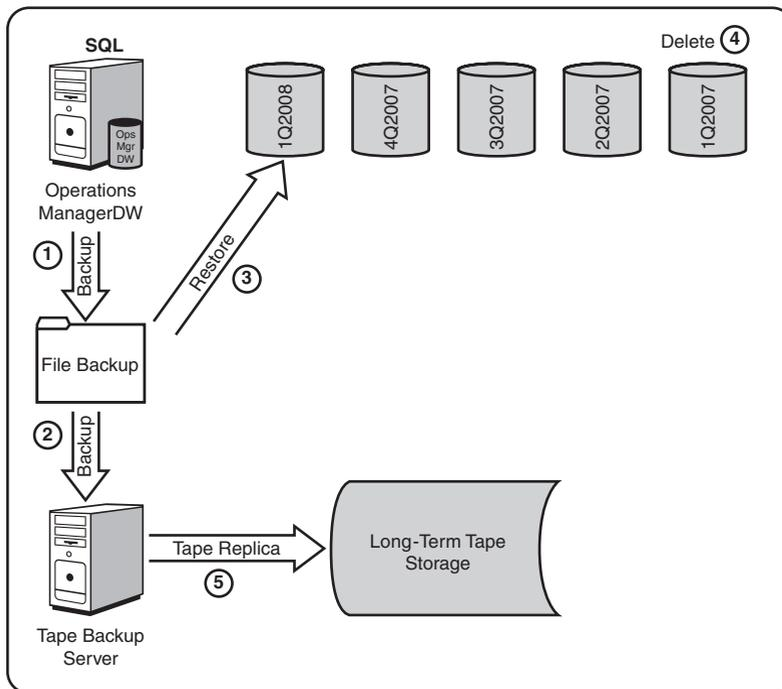

FIGURE 12.3 Quarterly backup of reporting database with archives.
- ▶ Administrative overhead in managing the backup process at the end of each retention period. The end-of-period backup process adds complexity, which we illustrate in Figure 12.3.
Procedures are a bit more complex for the end-of-quarter backup process, shown in Figure 12.3. The following steps outline the process of transitioning at the end of 1Q2008: